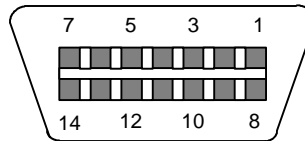

Figure D-2: Pin assignments for the Load Cell Port
3. If you do not wish to use the shielded load cell cable, you may use own, following the pin assignments shown in Figure D-2. (A 14-pin Male Centronics-type connector is required).